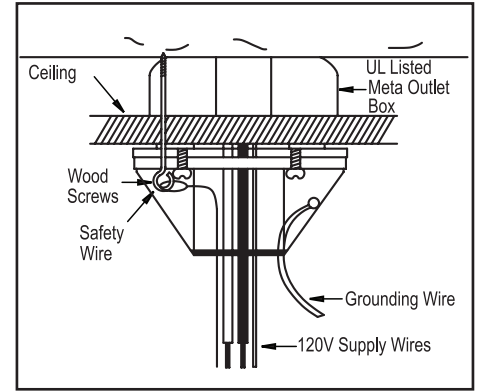

Figure 7
2. Place the looped end of the safety cable onto the hook loop of the wood screw as shown in Figure 7 and then close the hook loop completely, or connect the safety cable directly to the outer joist or hanging structure.